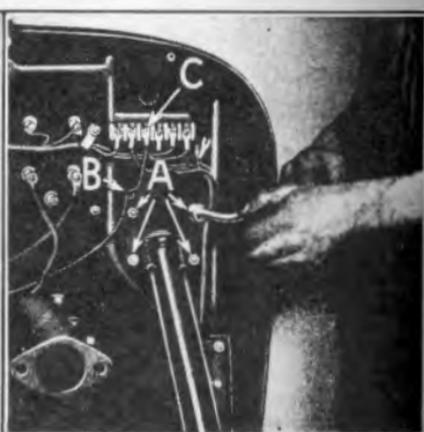

Fig. 99
- (a) Insert the four steering gear tube flange screws through flange and dash and run down lockwashers and nuts on ends of screws (See "A" Fig. 99).